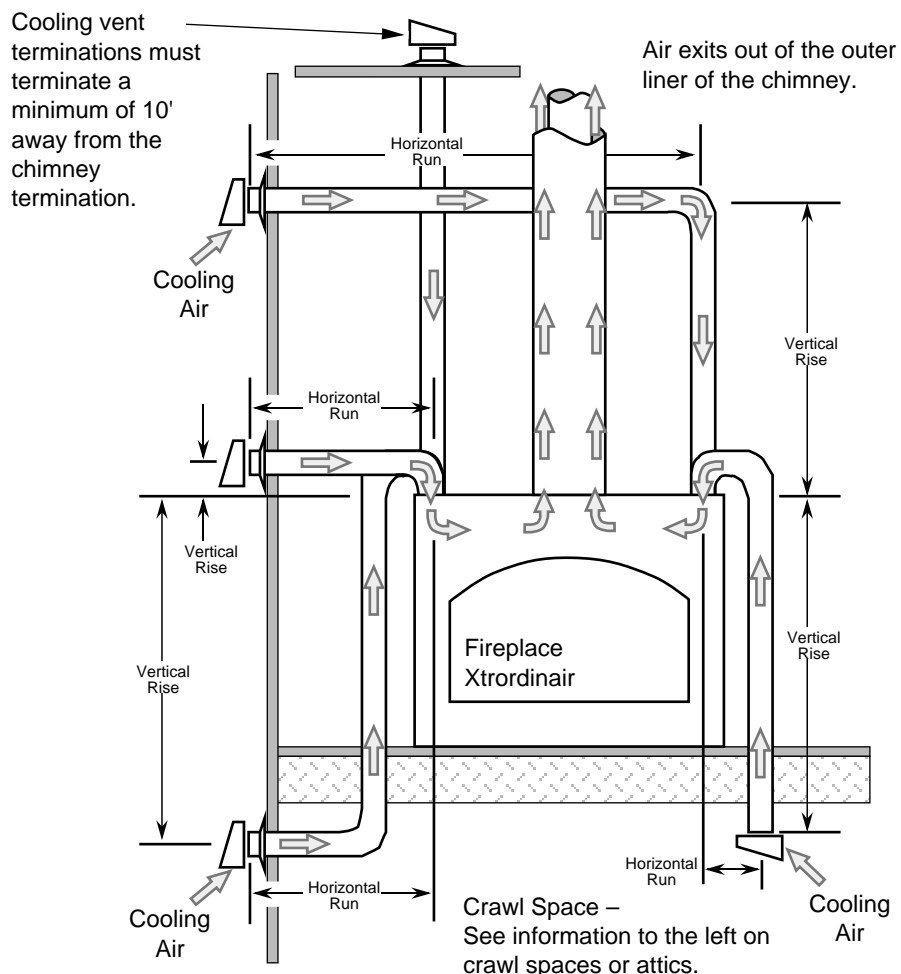

Figure 11
- A maximum of two 90° bends may be used on each vent. However, if a 180° bend is placed directly above the starter collar, one additional 90° bend may be used (see Figure 11).